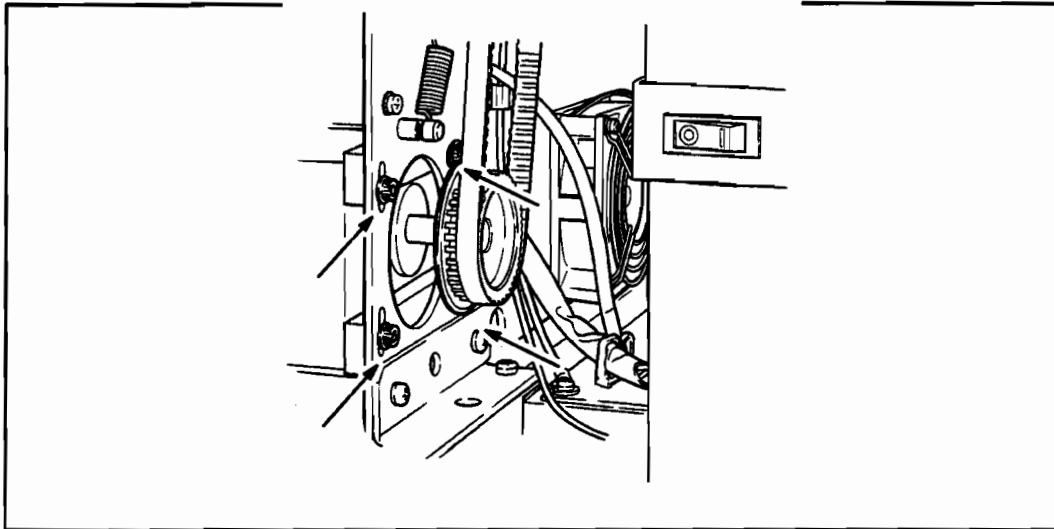

Figure 7-1. Motor Belt Adjustment
3. Using a 4 mm Allen wrench, loosen the four screws on the motor mounting plate. See Figure 7-1.